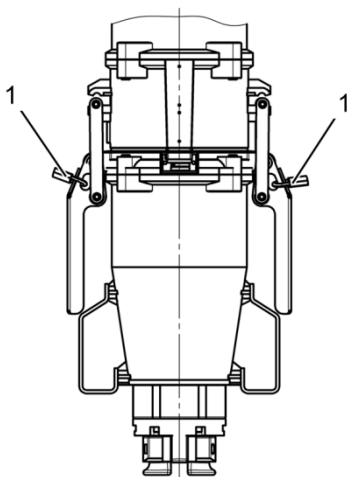

Fig. 66: Securing the locking levers
4. Use a padlock to secure the locking levers (Fig. 66 /1).